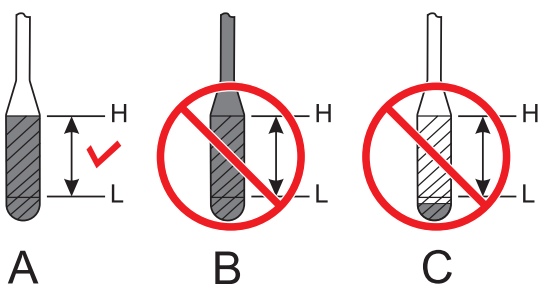

Figure 14. Engine Oil Dipstick
3. Reinsert the dipstick, then remove the dipstick from its holder. Check the oil level shown on the dipstick (Figure 14).